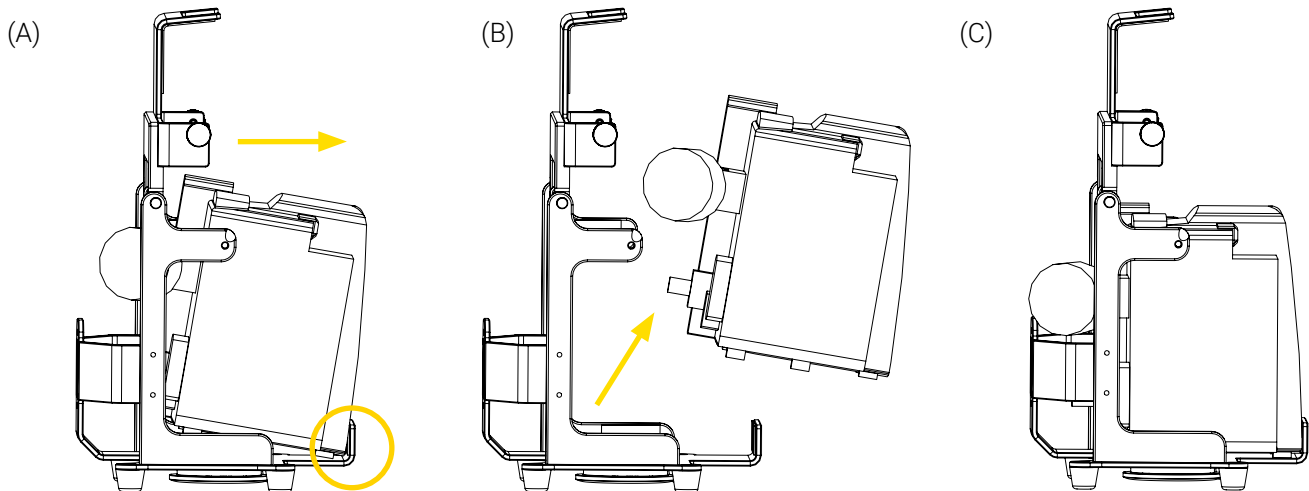

Figure 7: Plum 360 removed from the Bracket Pro Serie 221
3. Tilt the pump forward, leaning it on the front fold of the bracket (Figure 7 A).
4. Lift to remove the pump from the bracket (Figure 7 B and Figure 7 C), then set it aside.
Micro disc/Anti-Rotation Micro Disc (Figure 7 and Figure 9)